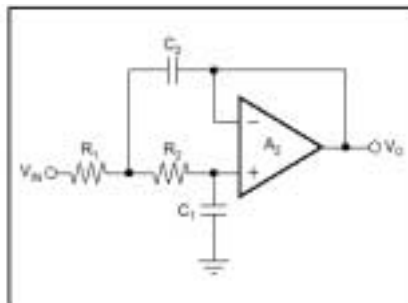

Figure 9. Sallen-Key Complex Pole-Pair Section. (Gain = 1) Unity Gain
- Sallen-Key—shown in Figures 9 and 10.
Figure 9 circuit, $K=1.0$